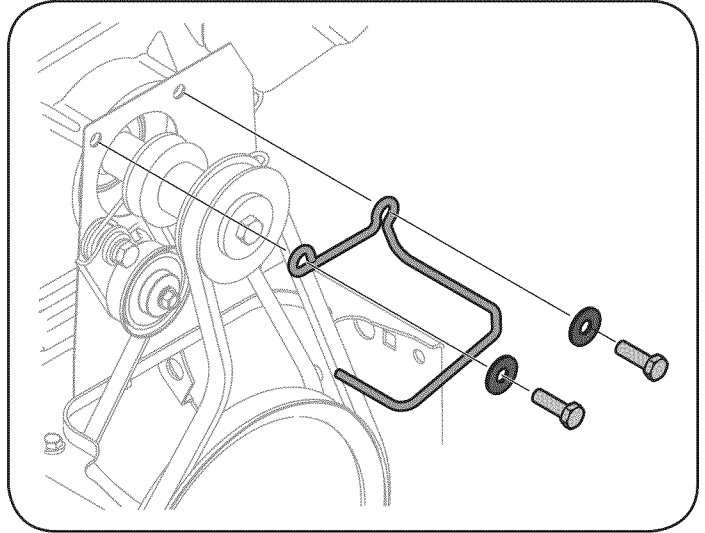

Figure 26
3. Loosen and remove the two bolts and flat washers securing the belt guide. See Figure 26. Remove belt guide.